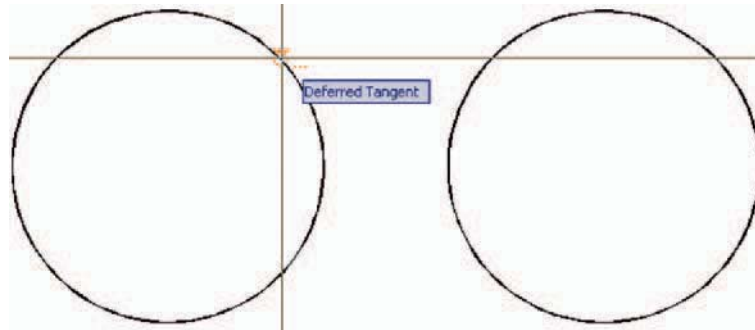
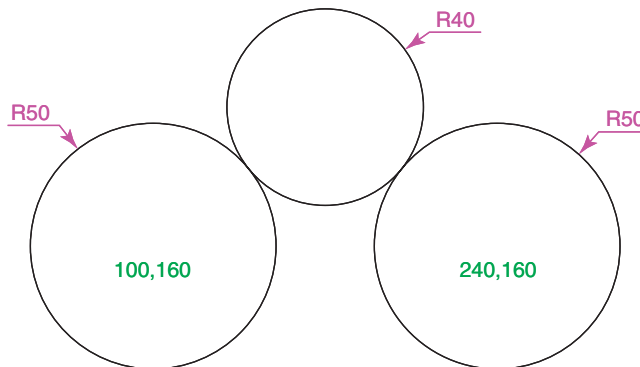

Fig. 2.14 Second example – **Circle** tool – the two circles of radius 50
Fig. 2.15 Second example – **Circle** tool
Second example – Circle tool (Fig. 2.14)
2. *Left-click* on the **Circle** tool icon and construct two circles as shown in the drawing Fig. 2.14 in the positions and radii shown in Fig. 2.15.
The radius **40** circle tangential to the two circle already drawn then appears (Fig. 2.15).